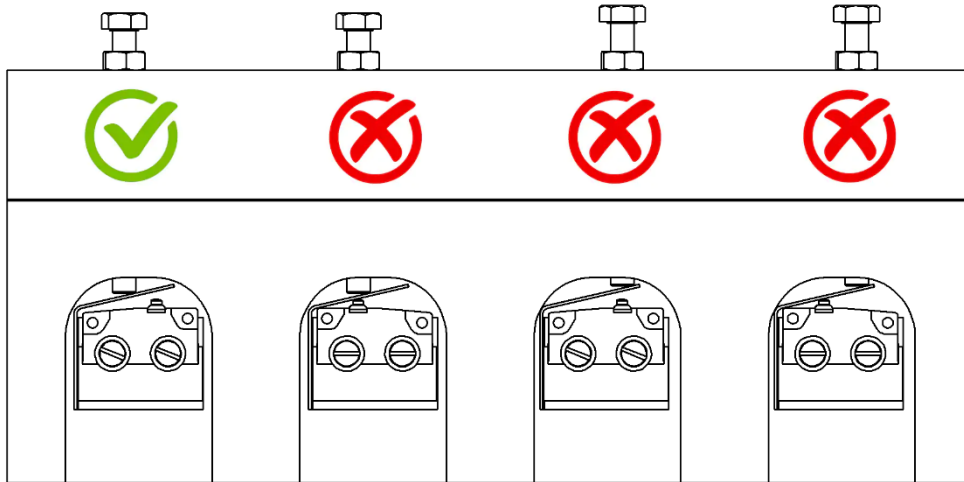

Fig. 2 Left levers
Step 2: Arrange the multiplier lever in the detector pocket, so that its two holes coincide with those of the detector, and in such a way that the lowest point of the cam is located in the contact area with the tip of the adjusting screw fixed to the movable plate (Fig. 2 and Fig.3).
Step 3: Reverse the position of the detector and arrange it in its pocket, on the multiplier lever, and so that its fixing holes coincide with those of the plate. Make sure that your pushbutton hits the highest part of the cam (Fig. 2 and Fig.3).